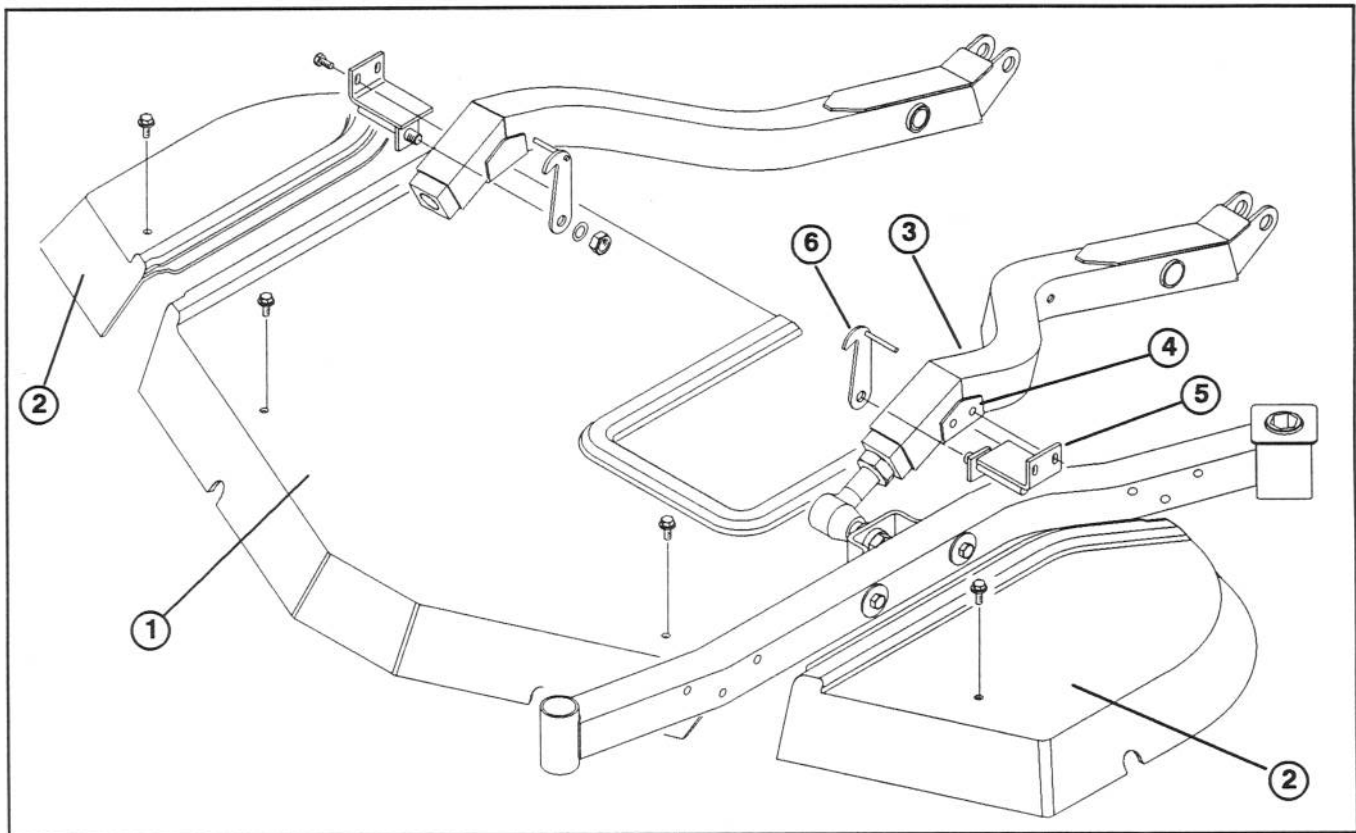

Figure 5
1. Position and center left latch bracket onto left lift arm brace (Fig. 5). Latch to be positioned so offset is forward.
2. Using latch bracket as a template, locate, mark and drill (2) .281 dia. holes thru lift arm brace and outer wall of lift arm (Fig. 5).
3. Secure latch bracket to lift arm with (2) 5/16–18 x 3/4" lg. self tapping screws (Fig. 5).
4. Mount left deck retainer to latch bracket with a wave washer and locknut (Fig. 5). Do not over tighten locknut as retainer must be able to pivot freely.